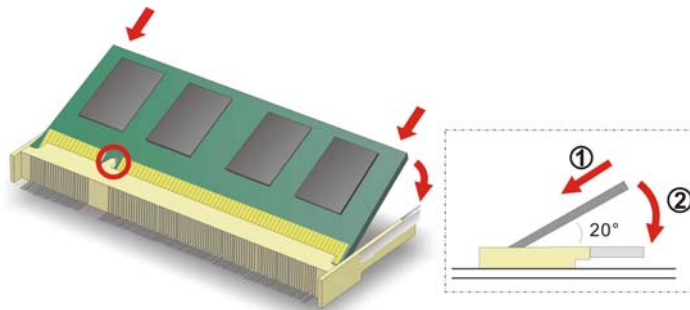

Figure 4-1: SO-DIMM Installation
To install an SO-DIMM, please follow the steps below and refer to Figure 4-1.
Step 3: Insert the **SO-DIMM**. Push the memory in at a 20° angle. (See Figure 4-1)
Step 4: **Seat the SO-DIMM.** Gently push downwards and the arms clip into place. (See Figure 4-1)